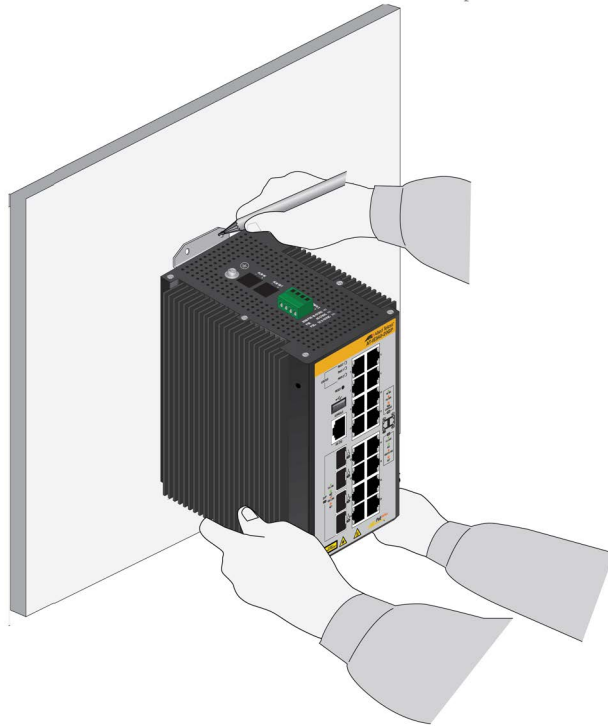

Figure 33. Marking the Locations of the Bracket Holes on a Concrete Wall
5. Have a person hold the switch on the concrete wall at the selected location for the device while you use a pencil or pen to mark the wall with the locations of the four screw holes in the two wall brackets. Refer to Figure 33 on page 83.
- The switch must be oriented as shown in Figure 33. You may not install the switch horizontally or upside-down.